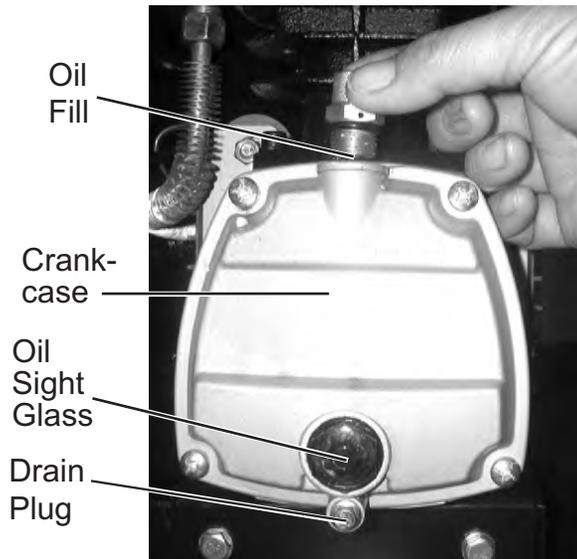

Figure 2. Installing the Oil & Oil Breather Cap
(See Figure 2)
1. Remove the Drain Plug under the Oil Sight Glass by turning the nut counter-clockwise with wrench. (See Figure 2.)